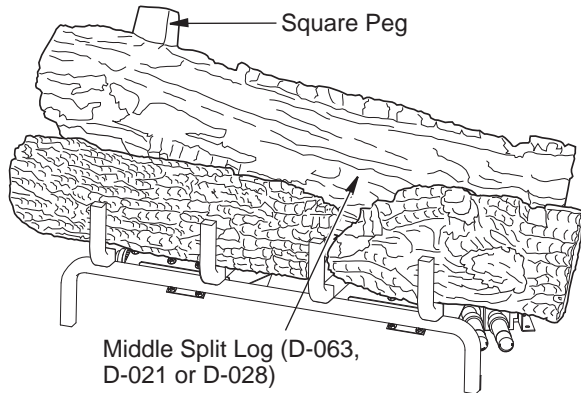

Figure 20 - Installing Middle Split Log (D-021)
- Find the middle split log (LMF24GTA/B or LMF24MOA/B models: D-063, LMF30GTA/B or LMF30MOA/B models: D-021, LMF36GTA/B or LMF36MOA/B models: D-028). See **Figures 20 and 20A**. The split side of the log faces forward. The log has a notch that fits around the burner tube on the right side. The left side of the burner tube fits into the notch on the back side of this log. The log is placed properly when it sits parallel to the tube burner and the square peg is pointing up. See figures for reference.